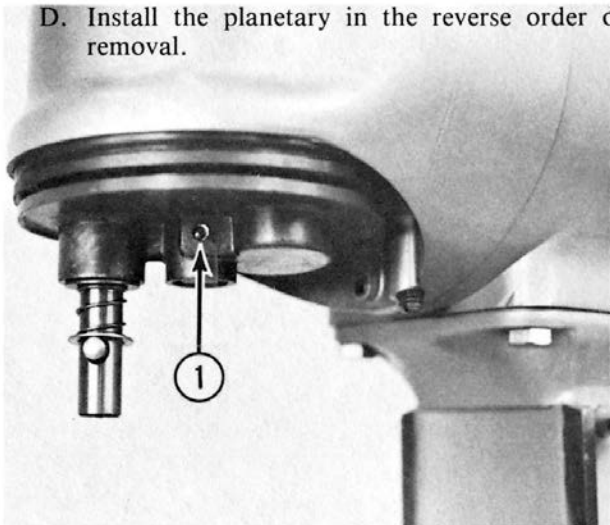

Fig. 2-2
- B. Drive out the (planetary shaft) taper pin (1, Fig. 2-2). The planetary can now be removed from the mixer.